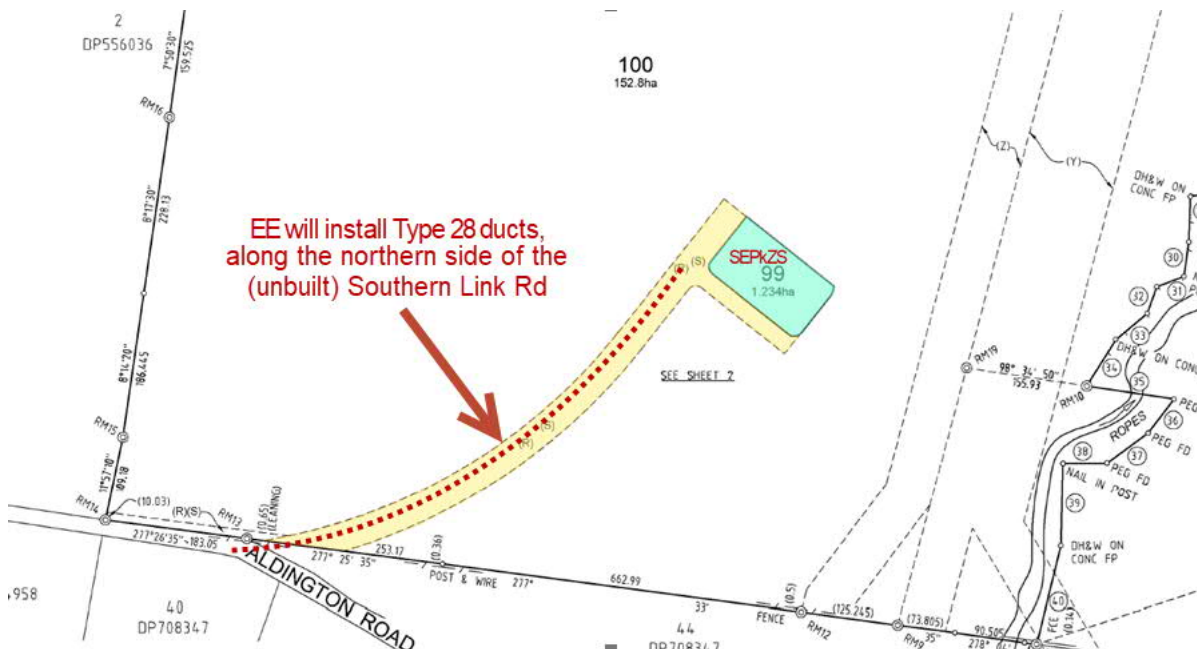

Figure 1
Endeavour Energy (Endeavour) has initiated internal project (HVN04817) to install TYPE-28 ducts (2 x 50mm ducts + 8 x 125mm ducts) along the northern side of the (unbuilt) Southern Link Rd from SEPkZS to Bakers Lane / Aldington Rd as part to establish future “Bakers Lane” and “Aldington Rd” feeders. Refer to Figure 1 for indicative feeder duct route. These ducts will cater for six (6) 22kV single cable feeders for development in the area that Endeavour had planned or committed to its supply arrangement. This leaves two (2) spare 125mm ducts remaining through this critical part of the potential feeder route for data centre interim supply feeder between SEPkZS and development property.